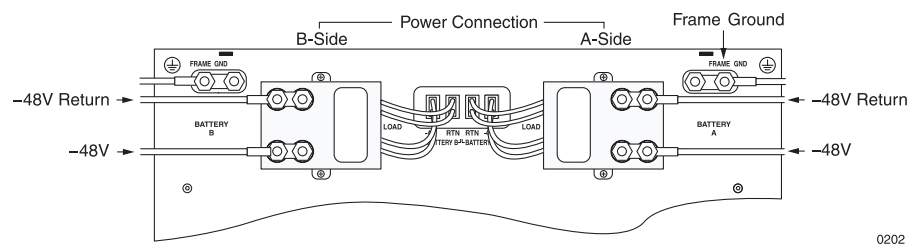
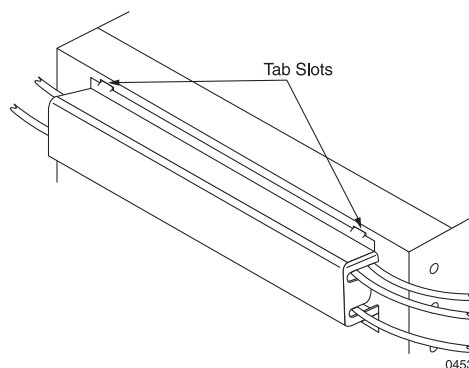
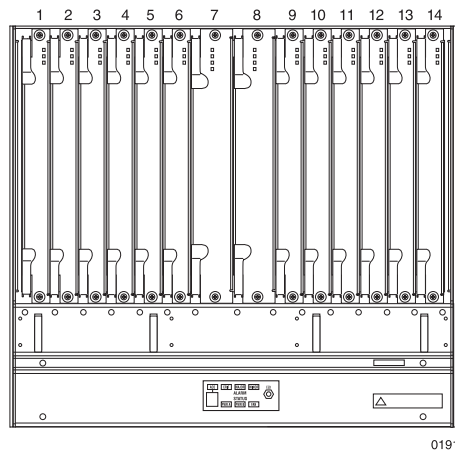

Figure 8 Connecting Power
Figure 9 *Installing the Power Safety Cover*
Figure 10 SmartEdge 800 Card Slots
1. Position a mounting bracket against one side of the first air ramp, lining up two of the screw holes in the bracket with two of the screw holes in the side of the air ramp. Ensure that the bracket position corresponds to the position of the chassis mounting brackets. Refer to the proper orientation for installing the brackets in Figure 8, Figure 9, and Figure 10.
The SmartEdge 800 chassis has terminal studs for A-side and B-side power cables for full power redundancy; these terminal studs are located on a pair of power filters that are mounted on the rear of the chassis. The A- and B-side power cables are connected to separate A-side and B-side connectors on the external fuse panel or circuit breaker panel. There are two connectors, also located on the rear of the chassis, either of which can be used to attach the chassis ground cable. Figure 8 shows the location of the power and chassis ground connectors. A safety cover, secured to the chassis by tabs and captive Phillips screws, prevents the cables from being deliberately disconnected and the connectors from being accidentally touched.
3. Place the connector over the studs labeled “FRAME GND” on either side of the chassis; choose the side that is most convenient for the installation site; see Figure 8.
2. Connect a power cable as follows; see Figure 8
5. Install the safety cover; see Figure 9